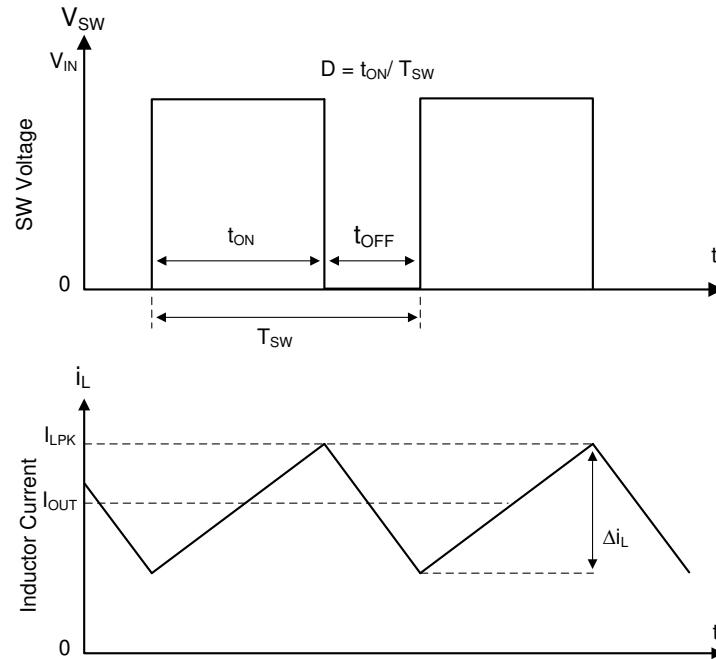

Figure 7-1. SW Node and Inductor Current Waveforms in Continuous Conduction Mode (CCM)
The following operating description of the LMR544xx refers to Section 7.2 and to the waveforms in Figure 7-1. The LMR544xx is a step-down synchronous buck converter with integrated high-side (HS) and low-side (LS) switches (synchronous rectifier). The LMR544xx supplies a regulated output voltage by turning on the high-side and low-side NMOS switches with controlled duty cycle. During high-side switch ON time, the SW pin voltage swings up to approximately V_{IN} , and the inductor current, i_L , increases with a linear slope of $(V_{IN} - V_{OUT}) / L$. When the high-side switch is turned off by the control logic, the low-side switch is turned on after an anti-shoot-through dead time. Inductor current discharges through the low-side switch with a slope of $-V_{OUT} / L$. The control parameter of a buck converter is defined as Duty Cycle $D = t_{ON} / T_{SW}$, where t_{ON} is the high-side switch ON time and T_{SW} is the switching period. The converter control loop maintains a constant output voltage by adjusting the duty cycle D . In an ideal buck converter, where losses are ignored, D is proportional to the output voltage and inversely proportional to the input voltage: $D = V_{OUT} / V_{IN}$.